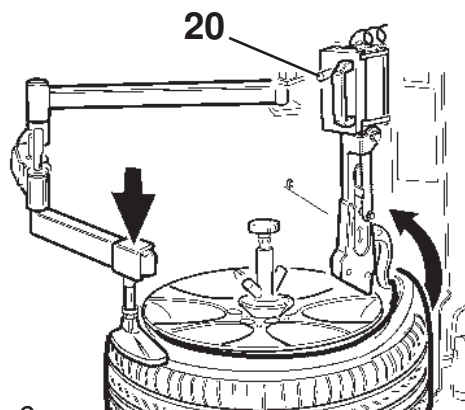

Fig. 6
- As soon as the bead is perfectly hooked, lift the mounting tool by raising lever ref. 20 to pull out the bead. To make the lifting easier set the tire pressing unit at "6 o'clock" position and press the tire side (fig. 6). Get a further help by contemporarily lifting the lower tire side by the lower bead-loosening roller (fig. 7).